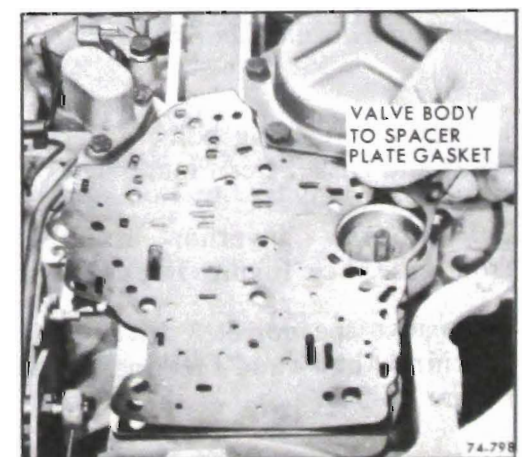

Figure 76-517
7. Remove valve body to spacer plate gasket. See Figure 76-517.